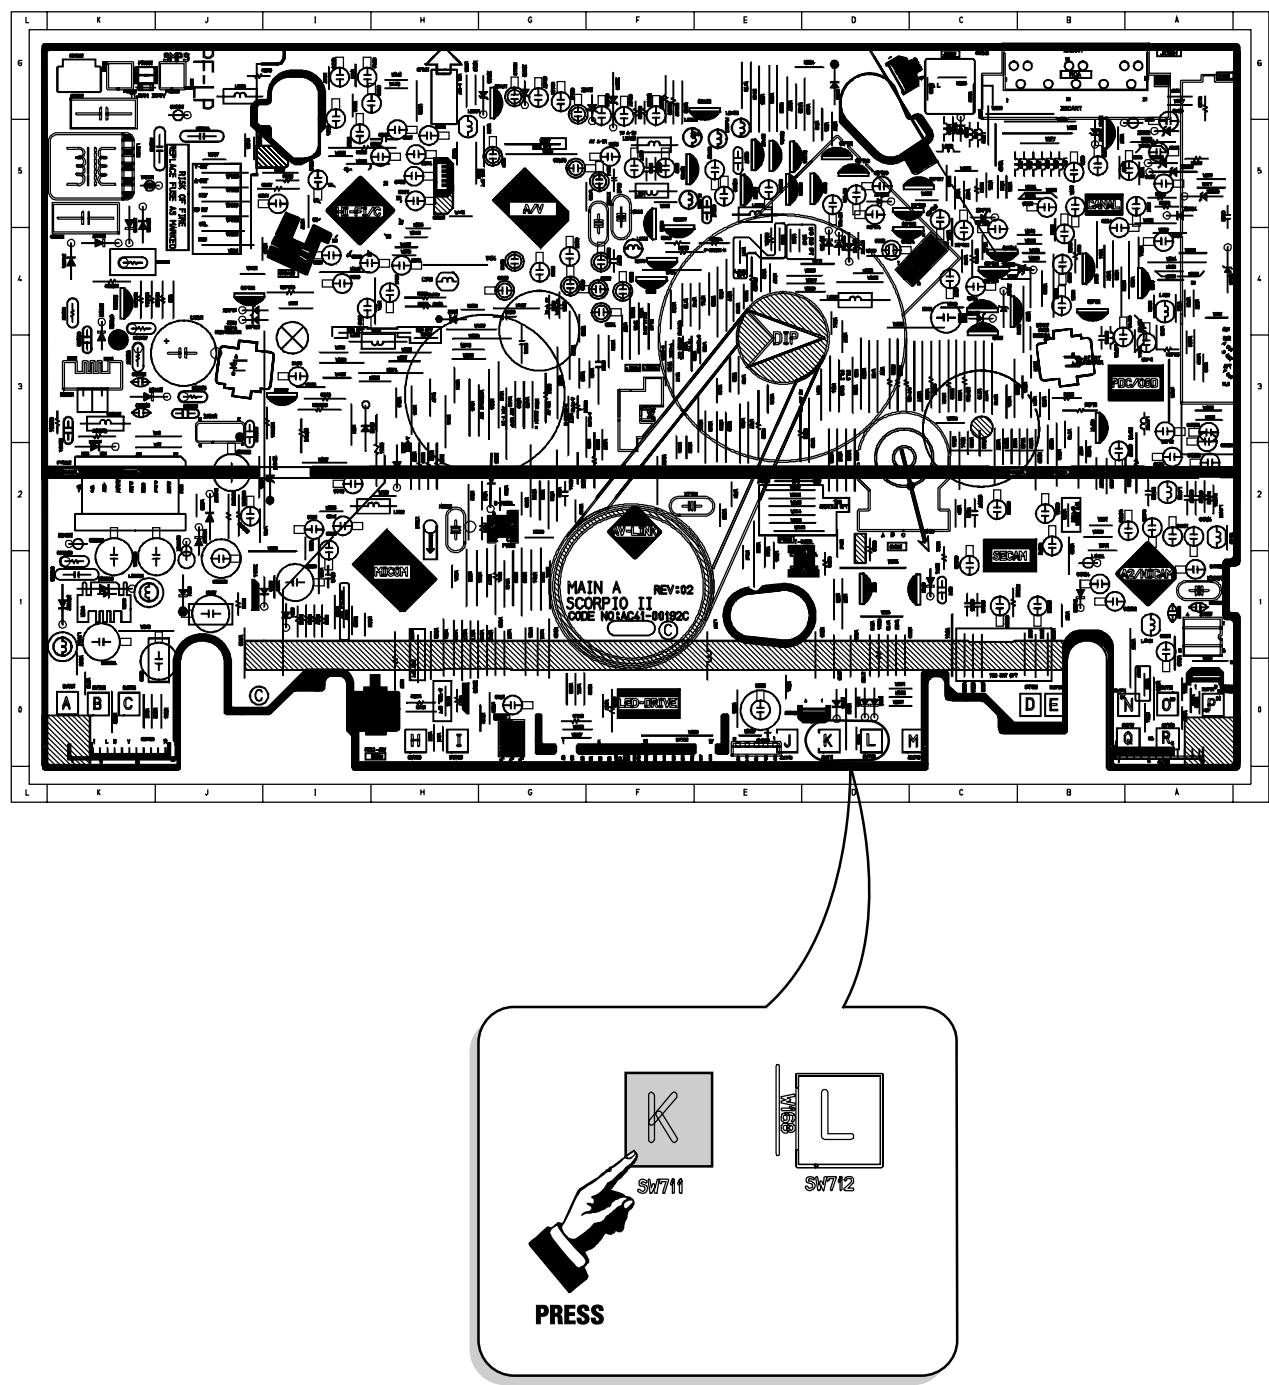

Fig. 5-2 Main PCB (Top View)
(See Fig. 5-2 and 5-3)
- 2) Press the "TEST" button on Main PCB/Function PCB to set the adjustment mode. (See Fig. 5-2 and 5-3)
- 1) Press the "TEST" button on Main PCB/Function PCB to set the adjustment mode. (See Fig. 5-2 and 5-3)